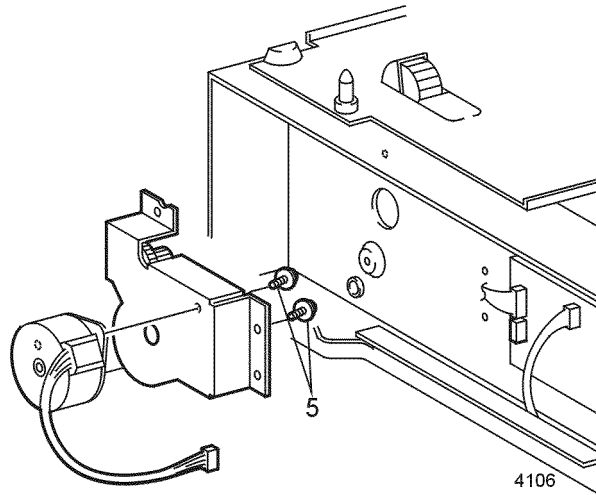

Figure 1 Feeder Drive Motor
5. Remove the two screws that secure the Drive Motor to the Drive Assembly (Figure 1). Remove the motor.